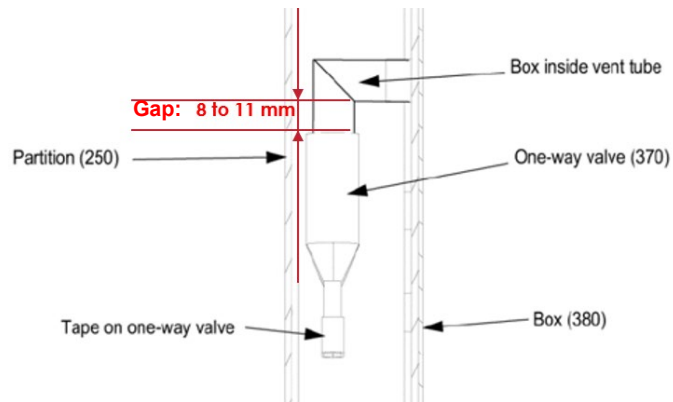

Figure 001 – Gap between the one-way valve (370) Saft P/N 415690 with the vent tube
- Visual inspect the gap between the tube and the one-way valve (370) **Saft P/N 415690** as indicated in figure 001. The **gap must be between 8 to 11 mm**. The measurement is done visually or with an insulated tool.